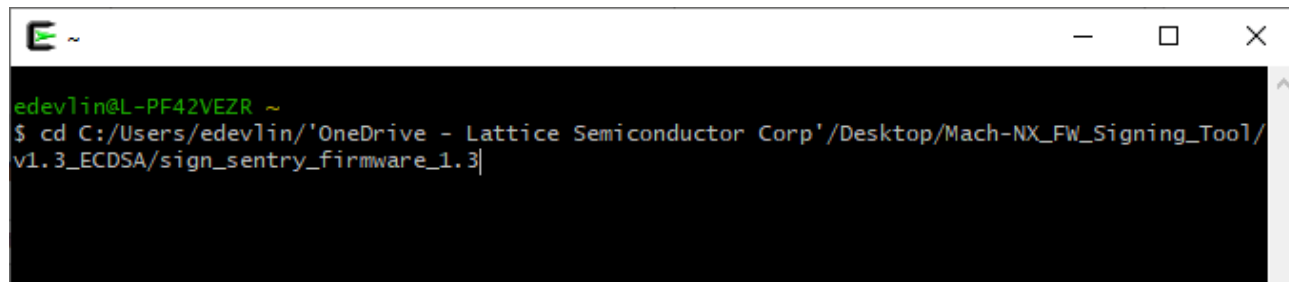

Figure 4.2. Navigate to the FST Files Directory
2. Navigate to the directory where the FST files are stored as shown in Figure 4.2.